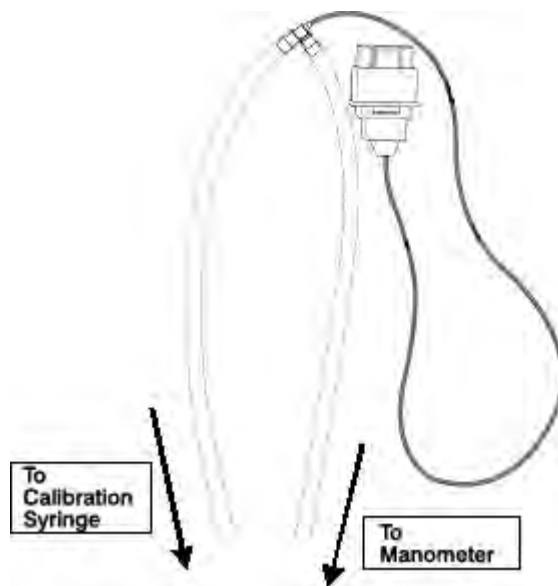

Figure 7.13
2. With NOTHING attached to the Pes port on the front panel, press Zero (0) calibration icon on the touch screen.
3. Attach the calibration assembly (Figure 7.13) to the Pes port on the front panel of the unit .